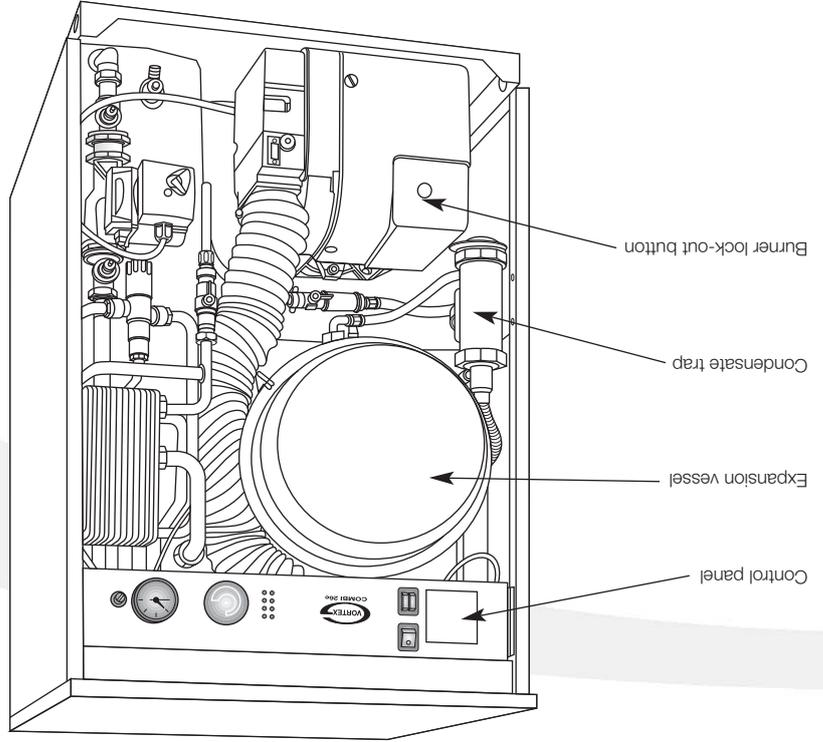
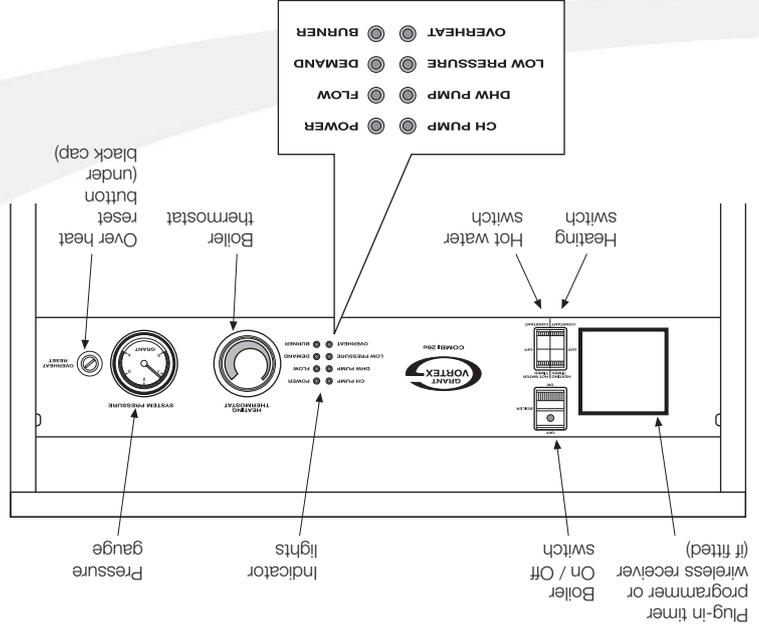

Figure 1: Pro Combi e internal boiler with front panel removed showing position of control panel
Figure 2: Vortex Pro Combi control panel
Pressure switch - If the heating system water pressure falls below 0.2 bar the boiler pressure cut-out switch will activate and the red 'LOW PRESSURE' indicator on the control panel (see Figure 2) will flash.
Overheat thermostat - Your boiler is fitted with a safety overheat thermostat which will automatically switch off the boiler in the case of a control malfunction causing overheating. The red 'OVERHEAT' indicator on the control panel (see Figure 2) will flash indicating the overheat thermostat has operated.
If your boiler goes off and you try to light it but nothing happens and the 'Lock-out' reset button on the burner is not lit, the overheat thermostat has probably operated. The boiler will not light until the thermostat is reset. To reset, unscrew the small plastic cap (see Figure 2), and press the button and the 'OVERHEAT' indicator should go off. Replace the plastic cap.
pressurised the system and set the white pointer on the pressure gauge (see Figure 2) to indicate a system pressure (when cold) of usually between 0.5 and 1.0 bar. Do not adjust this pointer.
If the heating system water pressure falls below 0.2 bar the boiler low pressure cut-out will be activated, cutting power to the burner, and the red 'LOW PRESSURE' indicator on the control panel (see Figure 2) will flash. The system must be re-charged to between 0.5 and 1 bar. If the heating system loses pressure on a regular basis then contact your installer to investigate and rectify the cause.
Set the On/Off switch to ON. Refer to Figure 2.
For short periods - Set the On/Off switch to OFF. Refer to Figure 2.
6. Check if the burner 'Lock-out' reset button (on the front face of the burner) is lit. Refer to Figure 1.
10. Check the heating system water pressure. If it falls below 0.2 bar the boiler low pressure cut-out will be activated, cutting power to the burner, and the red 'LOW PRESSURE' indicator on the control panel (see Figure 2) will flash. The system must be re-charged to between 0.5 and 1 bar. If the heating system loses pressure on a regular basis then contact your installer to investigate the cause.
Boiler On/Off switch: This switches the boiler on and off. The boiler On/Off switch incorporates a 'mains on' neon; see Figure 2, which lights when the boiler is switched on. Please note that the 'mains on' neon does not necessarily indicate that the burner is firing.
the temperature of the water leaving the boiler to the radiators can be increased by turning the boiler (heating) thermostat clockwise. Figure 1 shows the components in the Vortex Pro Combi e internal boilers and the position of the control panel. Figure 2 shows the details of the control panel.